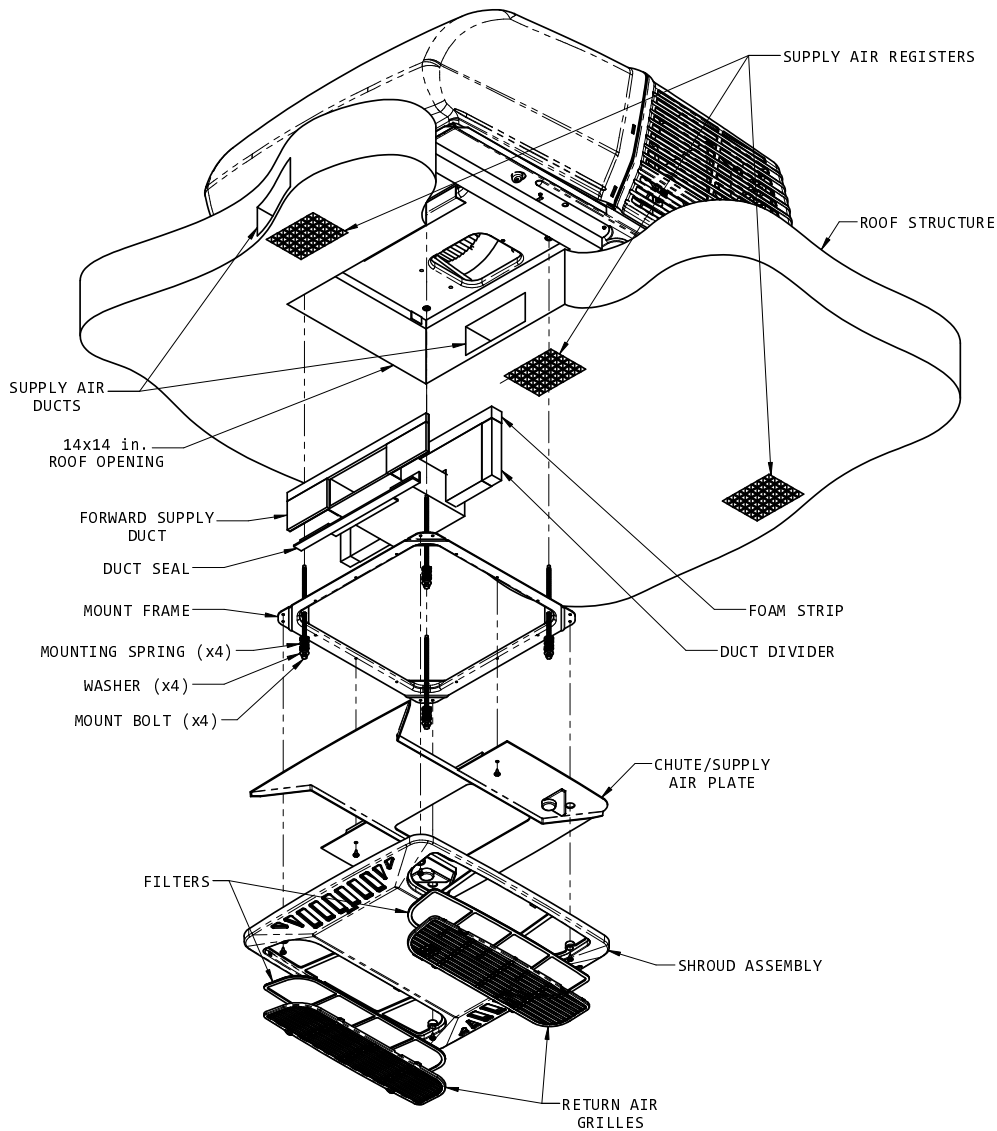

FIGURE 1
1. The field fabricated supply ducting must open into both ends of the ceiling plenum. Two ducts are required; one duct attached to the front, and one to the rear of the plenum (See Figure 1).
1. Place the air conditioner over the roof opening (See Figure 1).
2. Note that the duct divider has been pre-cut to conform to the supply duct. These pre-cuts are centered in the divider board. The board width will not need adjustment, as the attached foam allows accommodation of any width between 14" and 15". Measure the distance between the ceiling and the basepan. From this dimension, subtract ½ inch. With this dimension, cut the divider height. **Always trim off excess height from the top** (See Figure 1).
Align the bottom of the supply duct with the duct opening. Secure the duct with two screws provided in the mount kit small parts package. Using the duct seal found in the mount kit, seal off the gap which exists at the bottom of the duct flange where it abuts the bottom ceiling duct opening (See Figure 1).
5. Install the ceiling assembly mount frame using the four bolts, washers and springs (See Figure 1). Tighten only until the spring coils have achieved closure.
1. Raise the chute/supply air plate to the mount frame and ensure the plenum duct divider is positioned between the two ribs. Install the chute/supply air plate to the mount frame with 2 screws provided in the parts package (See Figure 1).